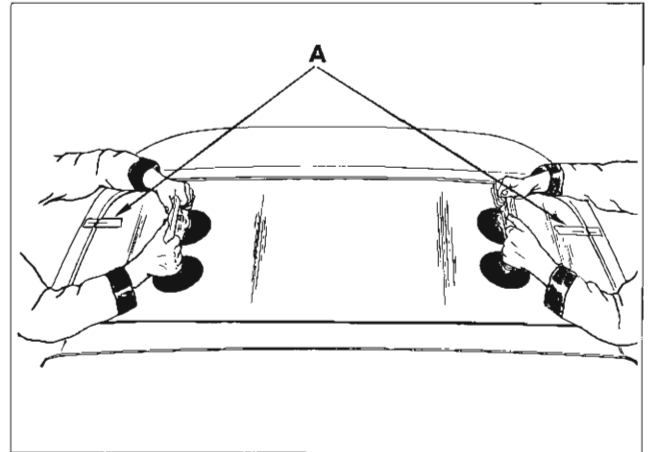

Fig. 14-6 Check Fit of Window in Opening
8. After final adjustments have been made and glass is in proper position in opening, apply a piece of masking tape horizontally over each side of glass and rear quarter extension (A, Fig. 14-6). Slit tape vertically at edge of glass so that when glass is being installed, tape on glass can be aligned with tape on body to serve as a guide.